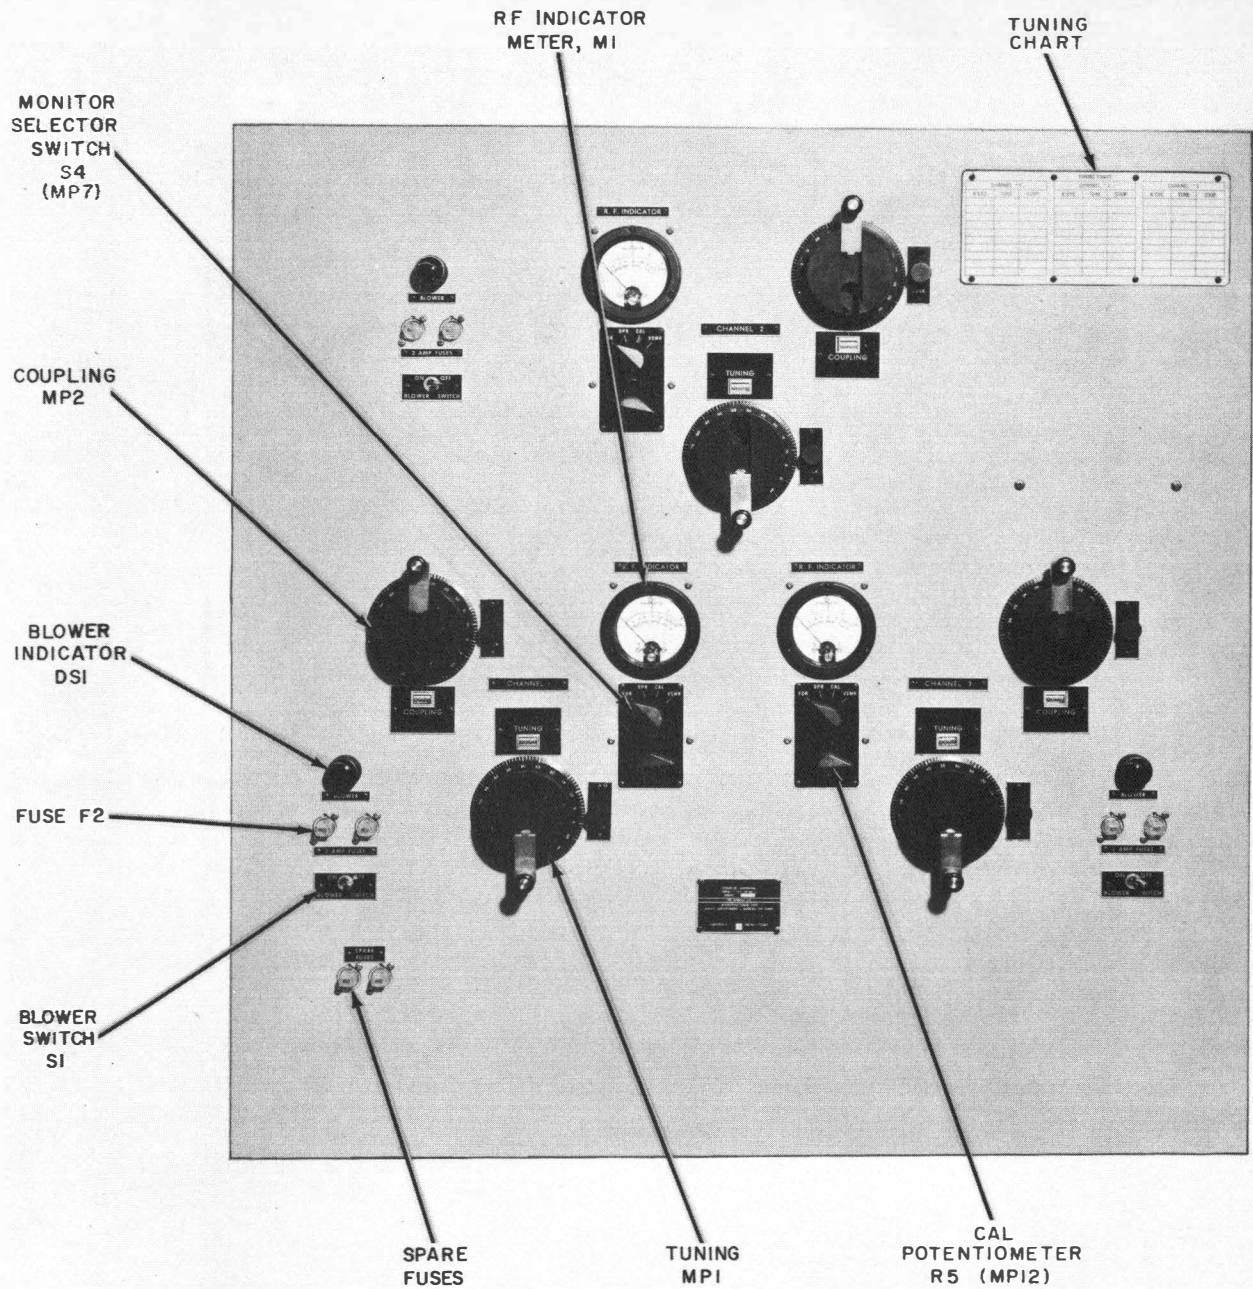

Figure 6-1. Antenna Coupler Group AN/FRA-49(V), Front Panel View
a. All tuning controls are located on the front panel (see figure 6-1). Verify the following conditions before operating the antenna coupler group:
c. TUNING. - To tune a channel to any particular frequency, always consult both the tuning chart located on front panel (see figure 6-1) and tuning graphs (figures 6-3, 6-4, 6-19 and 6-20), which give approximate values. Proceed as follows: